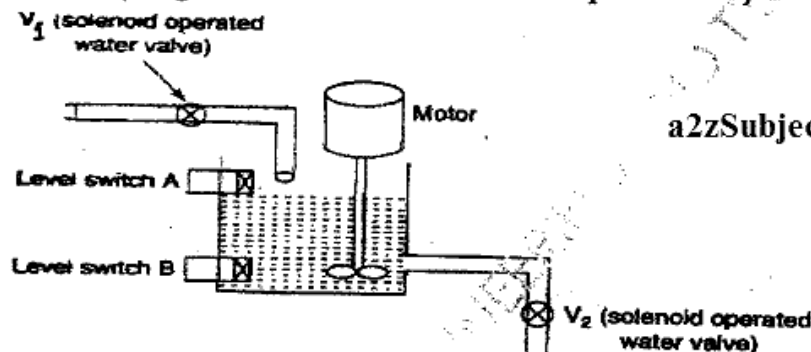

Figure 1
(b) A Process tank shown in Figure 1 is sequenced to mix liquid fertilizer (12) according to following sequence of operation.